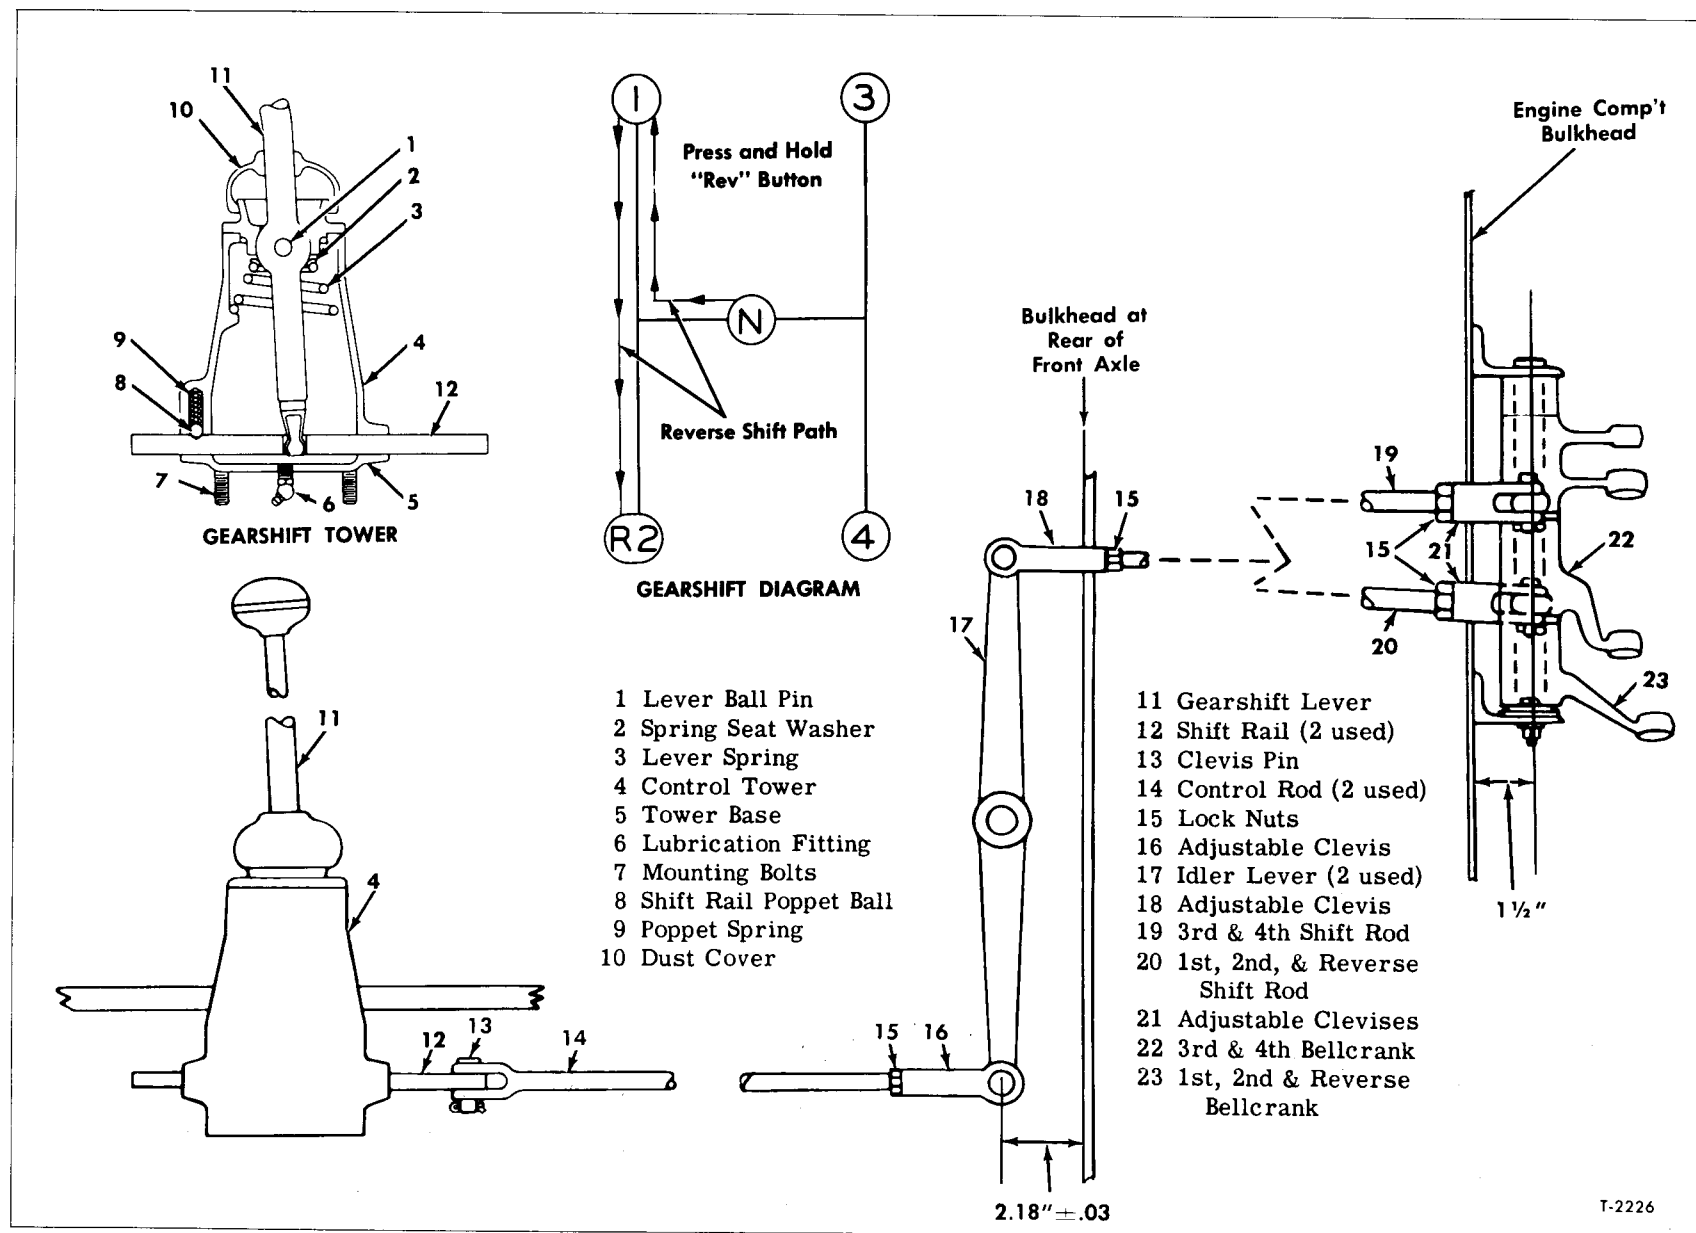
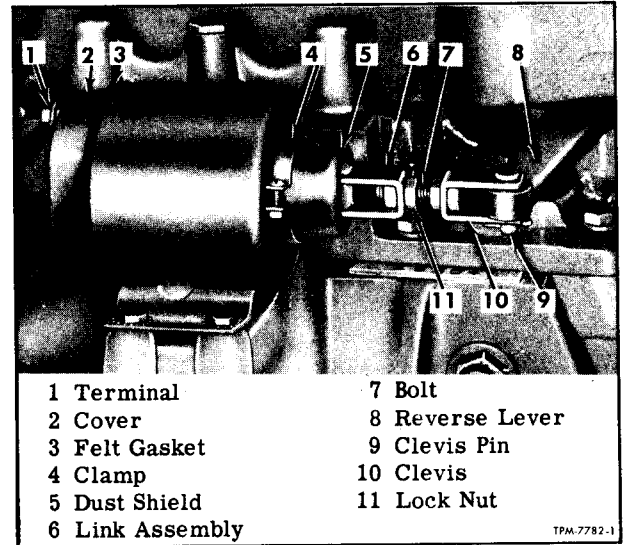
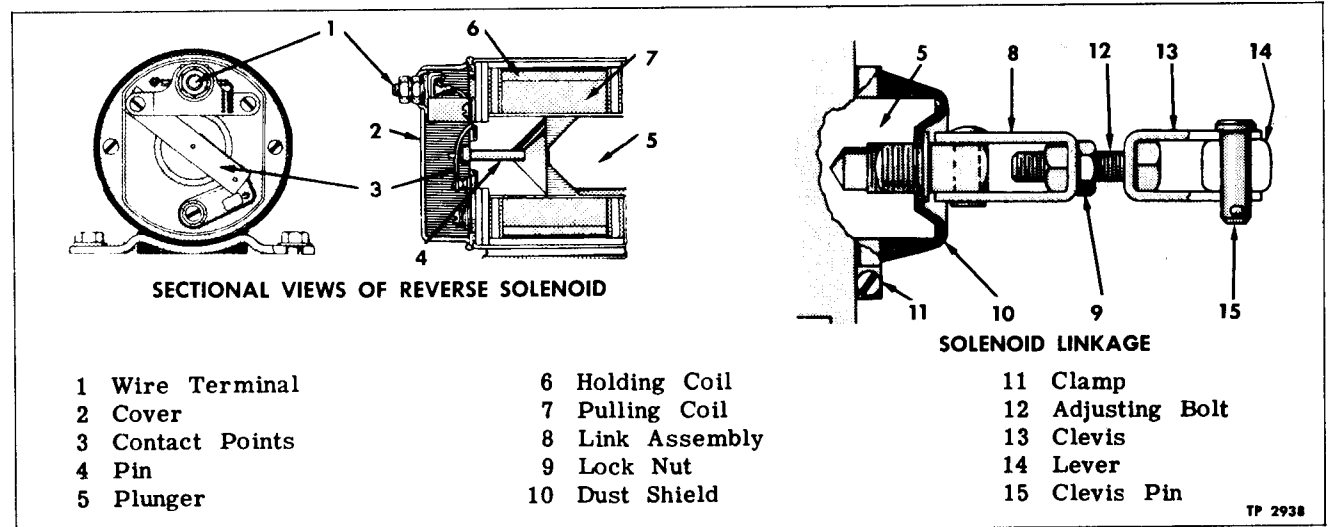

Figure 4—Transmission Controls
Figure 7—Reverse Solenoid and Linkage Installed
Figure 8—Sectional View of Reverse Solenoid and Linkage
The transmission gears are shifted manually through use of gearshift lever located at right of driver's seat and connected to levers on transmission by rods and bell cranks (figs. 4 and 5).
When shift is made for any one of four forward speeds, the movement of shift lever is transmitted to transmission through various rods, levers and bell cranks (fig. 4).
Control rods (fig. 4) pass through looms which are supported to bulkheads and supports with rubber grommets. Bellows-type seals are used at each end of loom to prevent entry of grit and dirt.
Reverse solenoid is mounted on transmission and connected to lever (fig. 7) which moves 1st, 2nd, and reverse shaft endwise. Solenoid is energized by a button type switch on panel at left of driver which operates reverse relay located in engine compartment apparatus box.
Relay completes circuit to the reverse solenoid. When solenoid is energized, solenoid plunger which is linked to reverse lever (8, fig. 7) pulls on reverse lever and forces shift finger shaft endwise to disengage inner finger from notch in 1st and 2nd fork and engage finger with reverse shift fork. This action can take place only when gearshift lever is in the 1st speed position. Refer to figure 4 for shift diagram.
Key numbers in text refer to figure 4, except as otherwise indicated.
4. Disconnect control rods from shift rails of gearshift tower (fig. 4). Move gearshift lever through each speed position and check for damage in shift tower. If binding or damage is in shift tower, refer to "Transmission Gearshift Tower Replacement" in this section.
1. Assemble gearshift tower components, referring to sectional view in figure 4 for construction. Mounting bolts are installed from upper side of tower and are threaded into base.
4. Operate lever (8, fig. 7) while observing contact points (3, fig. 8). As lever pushes plunger (5, fig. 8) inward, plunger must contact pin (4, fig. 8) and open points when plunger reaches end of stroke. When current is supplied to solenoid, both coils (6 and 7, fig. 8) are energized and cause magnetic pull on plunger; but when points open, the circuit through pulling coil (7, fig. 8) is broken and only the holding coil (6, fig. 8) remains energized. Damage to coils may occur if points do not open at end of plunger stroke.
5. If necessary to make an adjustment, refer to figure 7 and loosen lock nut (11), remove clevis pin (9) and turn clevis (10) while holding link assembly (6). Install clevis pin and tighten lock nut, then recheck action as directed in Step 4 above.
Pump is accessible only when transmission and clutch housing assembly are removed (fig. 8).
3. Disconnect wires from terminals (1, fig. 7) on reverse solenoid and oil pressure switch (1). Remove bolts securing harness clip (3) to transmission.
4. Disconnect transmission shift rods from levers (5) at transmission cover. Disconnect clutch rod from clutch control lever.